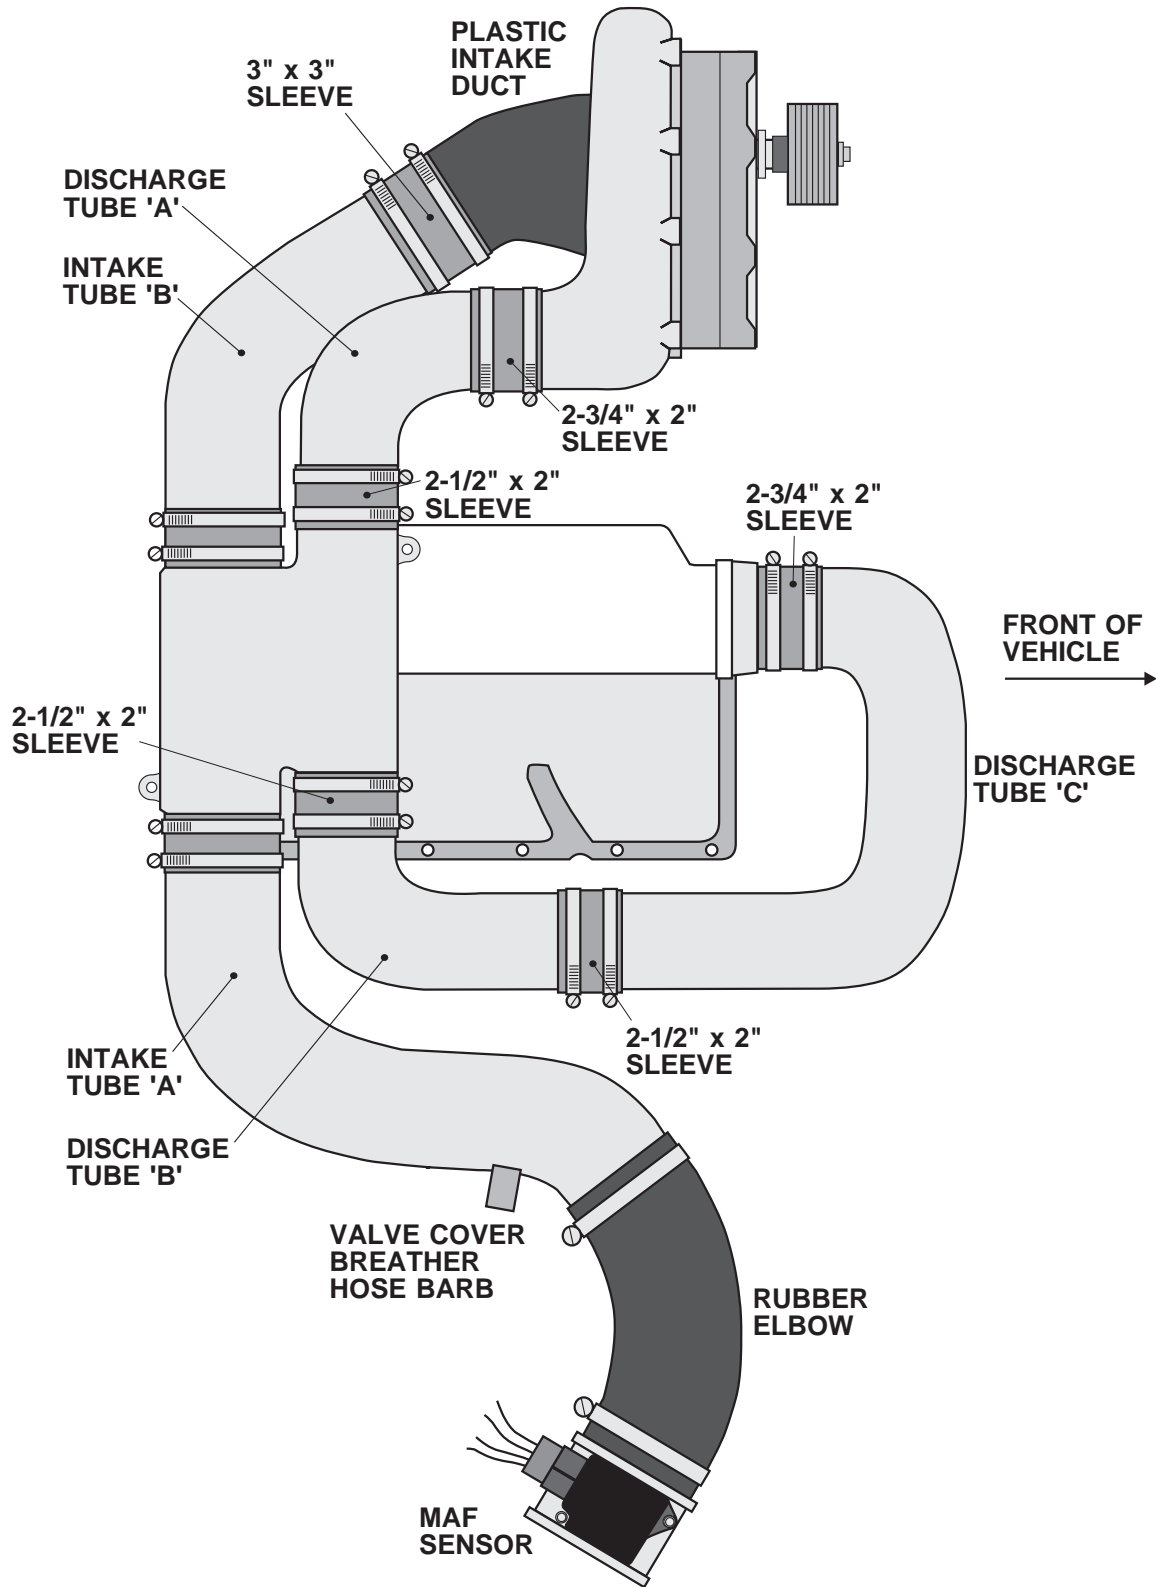

Fig. 10-a
- G. Secure intake tube 'B' to the plenum and plastic intake duct using 3" x 2" and 3" x 3" blue silicone sleeves and #48 clamps as shown in Fig. 10-a on the page 10.
- A. Slide a 2-3/4" x 2" sleeve and two #44 clamps onto the supercharger discharge. Use a 2-1/2" x 2" sleeve with #40 clamps on the discharge plenum. Install discharge tube A. Refer to *Fig. 10-a* on page 10.